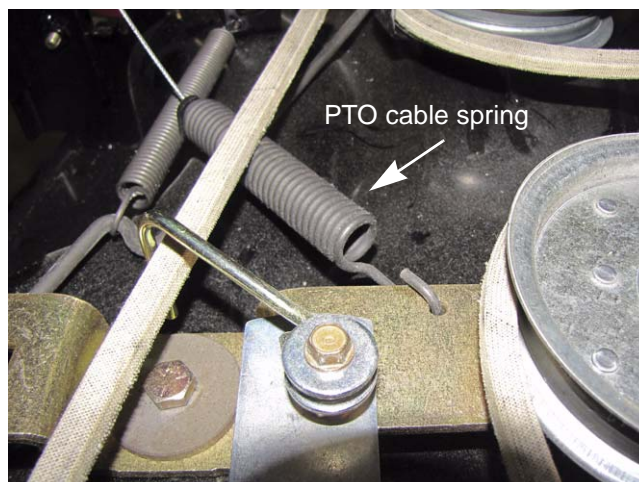

Figure 8.47
8. Unhook the spring end of the PTO cable from the idler pivot bracket. See Figure 8.47.